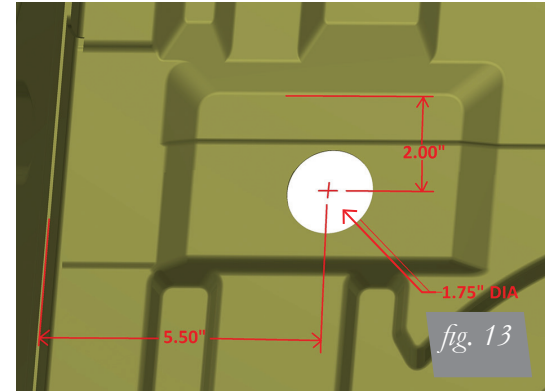

fig. 13
2. Measure and mark 5.50" from the wheel well inside the trunk onto the rectangle. Measure from the top edge of the rectangle down 2.00". These intersecting lines mark the center of the 1.75" hole that needs to be drilled to access damping (fig. 13).